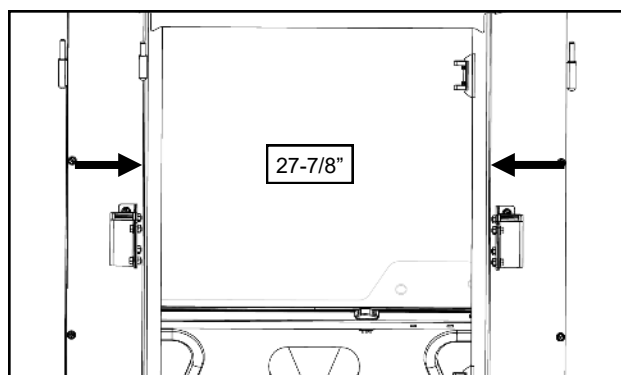

Fig. 14.4a (Squaring of Rear Legs and Roof)
- 14.4** Once all roof fasteners are started, measure the width of the rear legs (outside to outside). Adjust the width if needed to 27-7/8". Measure opening corner to corner for squareness and clamp the rear flange of the roof to each of the rear legs. See Figures 14.4a & 14.4b.